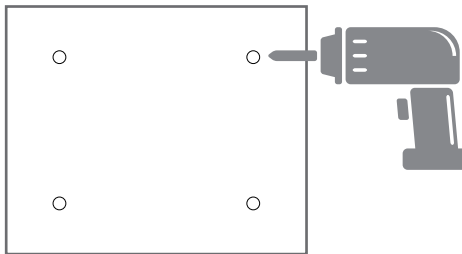

Fig. 5-11
3. Drill the mounting holes into the wall with an M6 ~ M10 drill bit at a depth of at least 1.57" (40 mm). (See Fig. 5-11)